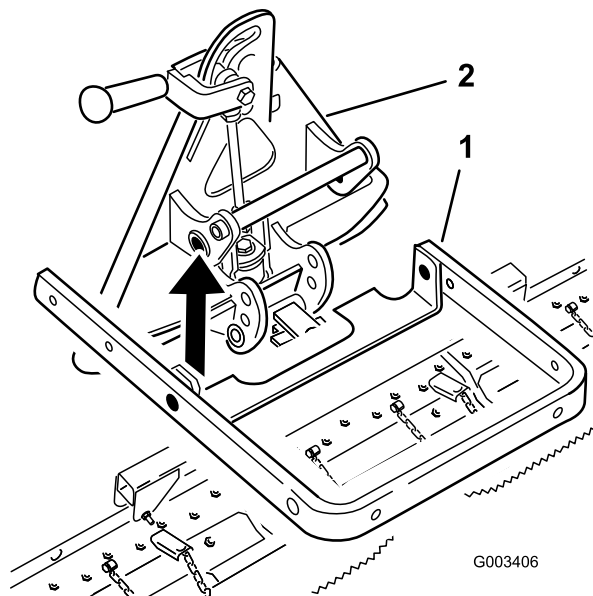
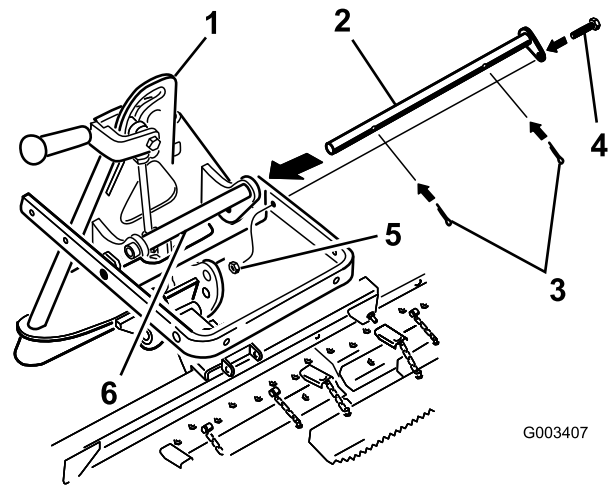

Figure 4
Figure 5
2. Align the lift arm with the bracket on the attachment adapter (Figure 4) and connect them using the pivot bar as illustrated in Figure 5.
Note: When moving the attachment adapter, use the handle provided on the back of the adapter (Figure 5).
3. Secure the pivot bar with 2 cotter pins and a bolt (3/8 x 1-1/4 inches) (Figure 5).
Always lift and move the attachment using the handle on the back of the attachment adapter (Figure 5).